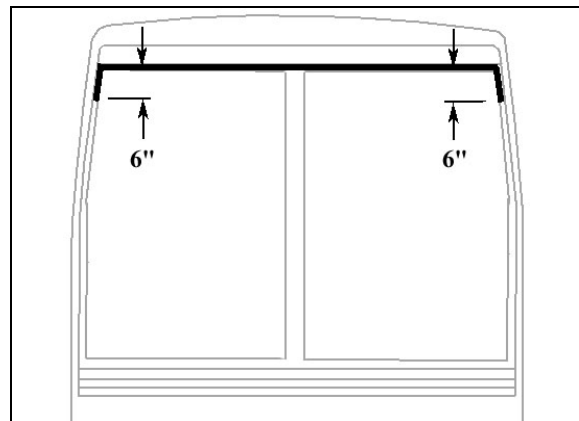

FIGURE 93: APPLICATION OF SIKA 221 BLACK
- At the top of windshield, clean surface between fiberglass and rubber extrusion using Sika 205 (Fig. 93).